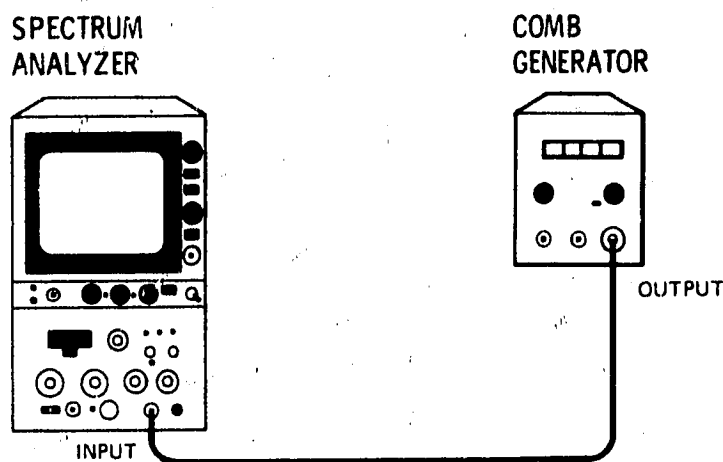

Figure 4-4. Digital Frequency Readout Accuracy Test Setup
3. Connect equipment as shown in Figure 4-4.